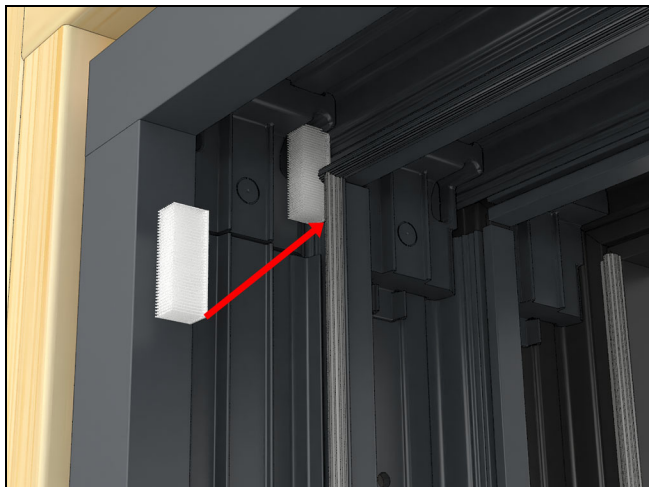

Figure 72
11. On uni-directional locking jambs, apply a dust block at the top of the interior track behind the bulb weather strip. Position the block so it is centered between the joint on the head jamb and jamb weather strips. See Figure 72.